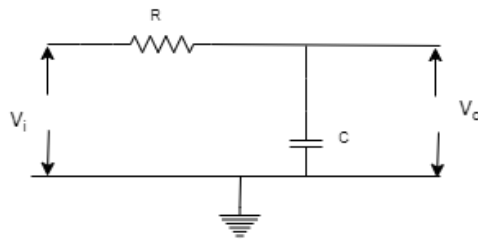

Figure 2.1: RC Integrator or Low pass filter
2.1 Design RC low pass and high pass circuit and draw the gain versus frequency graph as shown in figure 2.1 and 2.2.
2.2 Design RC low pass and high pass circuit for different constants for step and square input as shown in figure 2.1 and 2.2 and draw the waveform input and output waveforms.
1. Design RC low pass and high pass circuit for different constants for step and square input as shown in figure 2.1 and 2.2 and draw the waveform input and output waveforms.